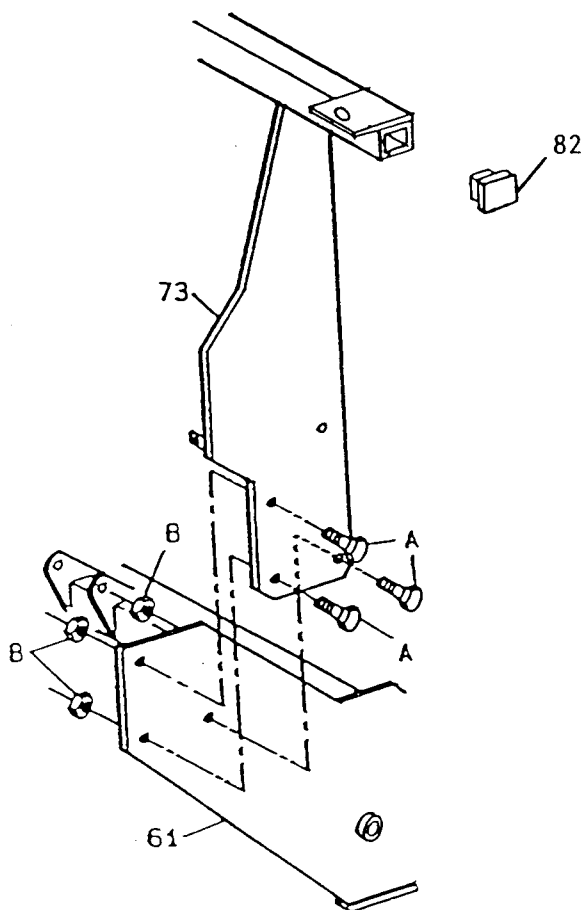

FIGURE 4
9. Now, position the LIGHT BRACKET ASSEMBLY (Ref. No. 73, Fig. 4) on the coupler and bolt in place using six (6) 1/2" x 1" hex head bolts and self locking nuts.